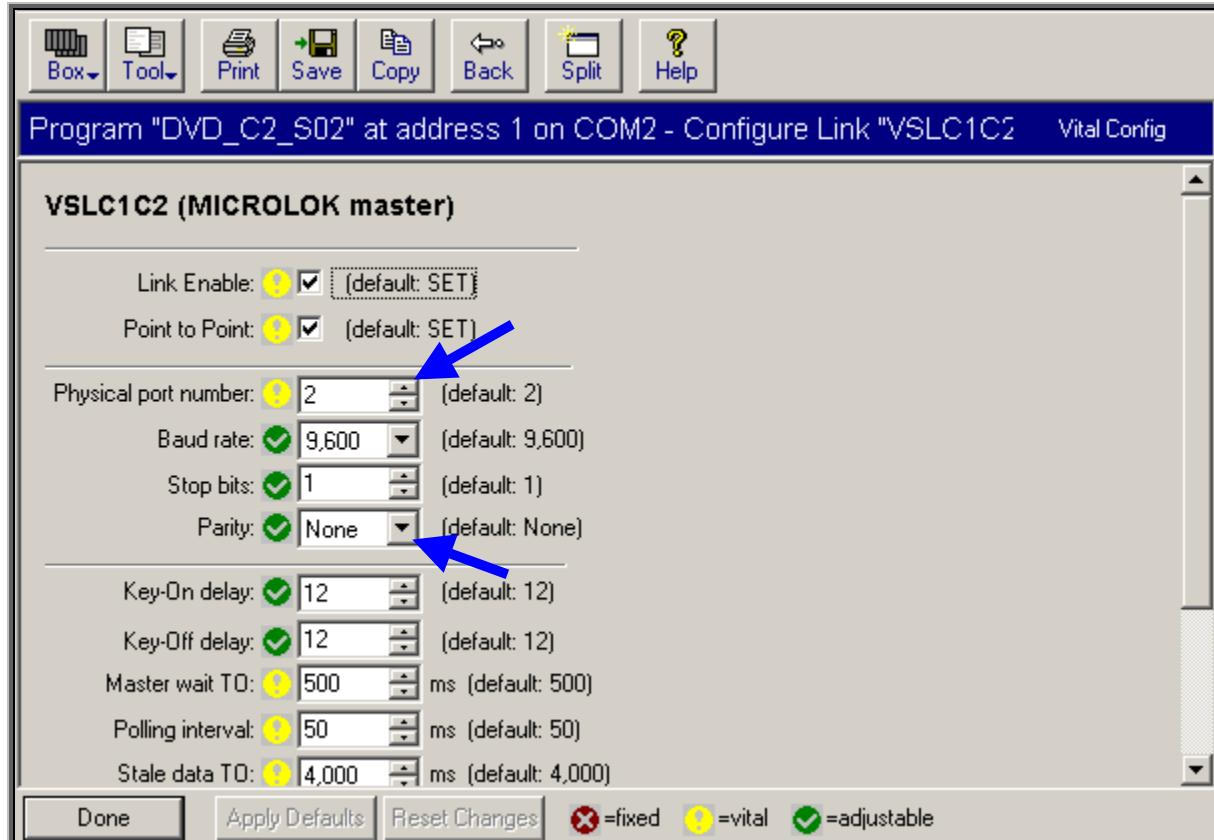

Figure-7.6.2
- ❖ After click on the one of Link Configuration, the following window appears as shown in Figure-7.6.2.